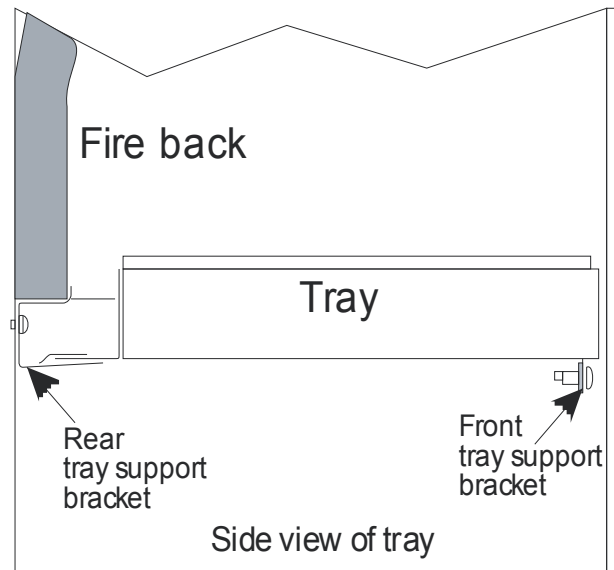

Figure 66
5. Replace the burner tray ensuring that the rear of the burner tray assembly slots into the rear support (see **Figure 66**).